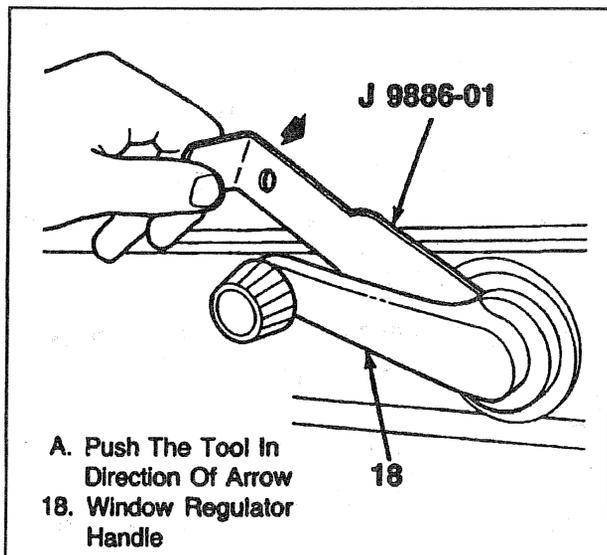

Figure 1—Typical Window Regulator Handle Retaining Clip Removal
#### ↔ Remove or Disconnect (Figures 1 and 2)
- A. Insert J 9886-01 between the handle and bearing plate (figures 1 and 2).
- B. Align the tool and push to disengage the clip (figure 1).
#### →← Install or Connect (Figures 1 and 2)
2. Window regulator handle (figure 1 and 2).